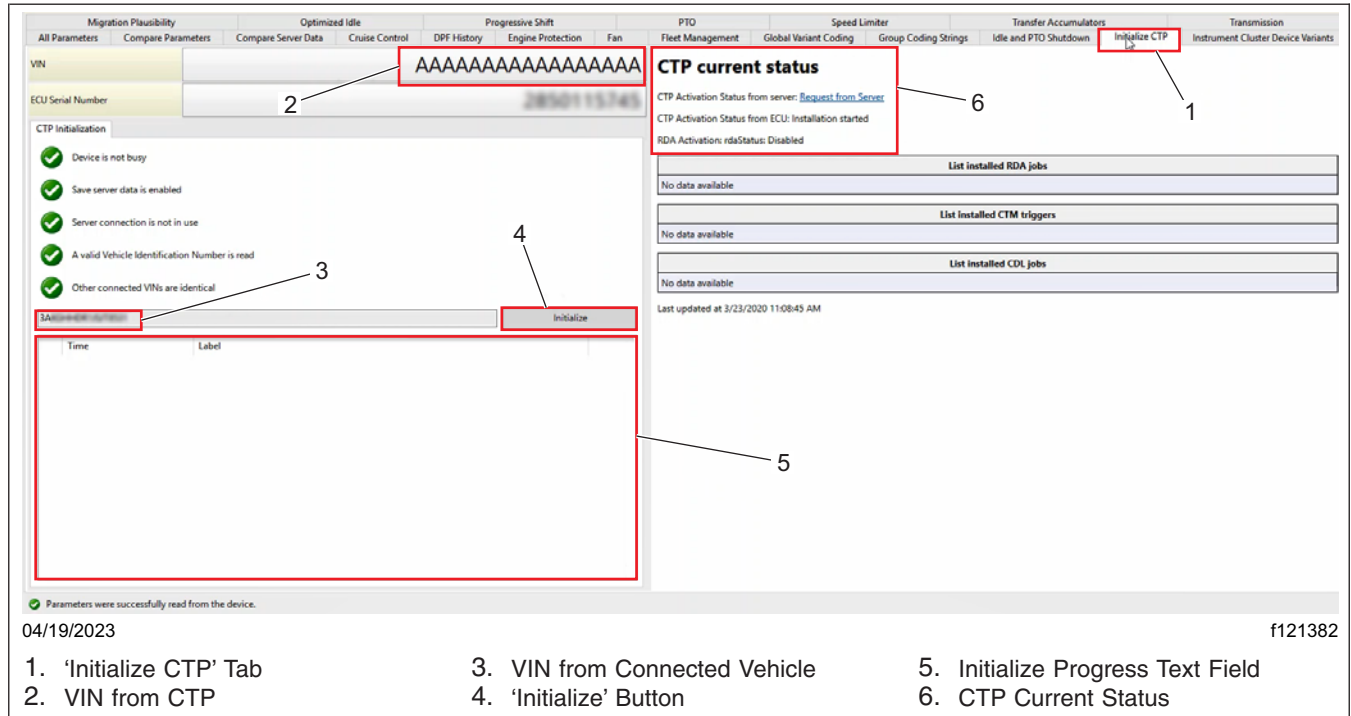

Fig. 4, CTP Initialization
9. Select the 'Initialize CTP' tab. Verify the vehicle identification number (VIN) from CTP reads the default AAAAAAAAAAAAAAAAAA, or the VIN from the connected vehicle. See Fig. 4. If not, remove the CTP, and install a new CTP.